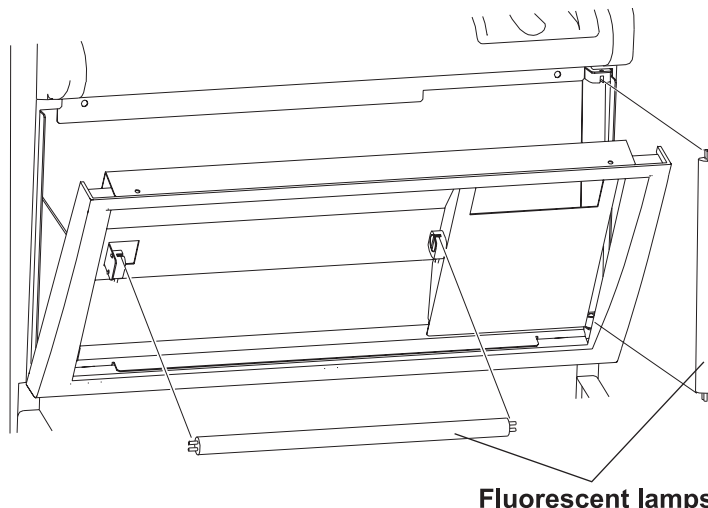

Figure 4-8 Removing the Fluorescent Lamps
4. Using cutters, remove the band fastening the fluorescent lamp, then pull the lamp out from its socket (see *Figure 4-8 Removing the Fluorescent Lamps*).